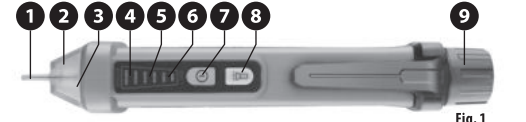

Fig. 1
- Do not use this device when its power indicator is not lit, i.e. button in fig. 1, position 7 is not lit.
Turning on: Press the On/Off button (fig. 1, position 7) for more than 1 second. The button must light up. In the event that the button does not light up, do not use the device and arrange a remedy for this condition.
Turning on: Press the button with the flashlight symbol (fig. 1, position 8) to turn on the flashlight. Turning off: Press the button with the flashlight symbol again to turn the flashlight off.
The detection of alternating-current voltage works on the principle of non-contact detection (NCV) without a conductive connection of the device with the tested object. Place the test probe (fig. 1, position 1) of the device on the tested object or if this is not possible as close as possible to the tested object. If the device detects voltage in the tested object, the light signal head (fig. 1, position 2) will flash read and will be accompanied by an intermittent sound signal at a varying frequency. The signal intensity (high, medium, low) will be shown by means of signal intensity indicators, see fig. 1, positions 4, 5, 6. For example, placing the test probe (fig. 1, position 1) directly on the insulation of a conductor with a voltage of 230 V ~ 50 Hz („L“ phase) is accompanied by an intermittent warning light signal of the highest frequency on the light signal head (fig. 1, position 2), an intermittent sound signal of the highest frequency and likewise all the signal intensity indicators are lit (fig. 1, position 4) red and the remaining indicators are lit yellow. If the device’s test probe is moved away from the conductor by only 1 cm, the sound and light signal frequency will be reduced and the signal intensity indicators will be lit with medium intensity (fig. 1, position 5). At a distance of 1.5 cm from the same conductor, the frequency of the warning light and sound signals will be even lower than in the previous example and the low signal intensity indicators (fig. 1, position 6) will be lit. **At a distance of 4 cm from the same conductor, the device will not emit any light or sound warning signal**, i.e. as if the examined conductor were not live (appears to not be under voltage). **From the aforementioned examples the limitation that can distort measurement results are evident, e.g. the distance of the conductor from the device’s probe in masonry, environmental shielding of the conductor, etc. If for example the live conductor is deeper inside a masonry wall and the detector is not emitting any warning signal, it does not mean that the conductor is not live or that there is no live conductor in the masonry wall.**